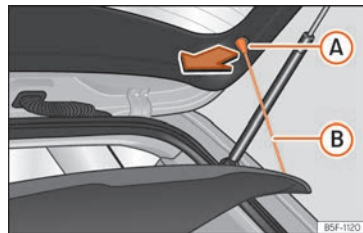

Fig. 137 In the luggage compartment: removing and fitting the shelf.
- Detach the cord loops »» Fig. 137 (B) from their hooks (A).
- Hook the loops »» Fig. 137 (B) to the rear lid.